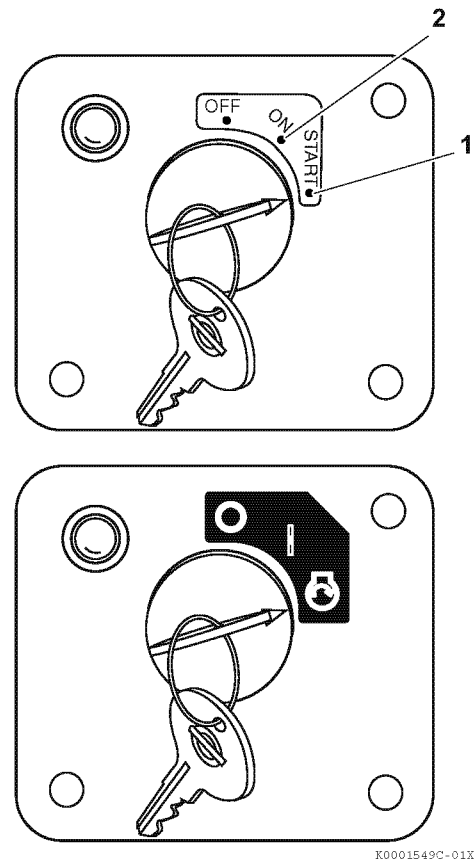

Figure 15
2. Turn the key clockwise to the START position (1, **Figure 15**). Release the key as soon as the engine starts. It will return to the ON position (2, **Figure 15**).